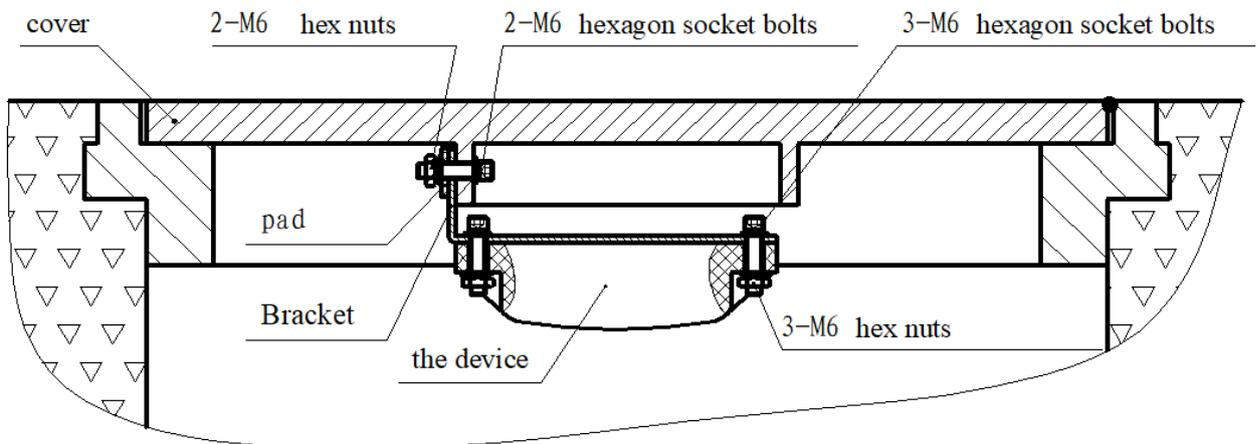

Figure 15 Installation Instruction with CS-ITWM-A01
4) Place the 2-M6\*35mm hex socket bolts with spring washers and flat washers in sequence, as shown in Figure 15, through the 2 holes on the manhole cover, mounting bracket and gasket. Drip the thread glue on the bolts and nuts, pre-tighten the 2-M6 nuts by hand, adjust the top surface of bracket to the same level of the bottom of the manhole cover, and then tighten the bolts and nuts with the inner hexagonal wrench.